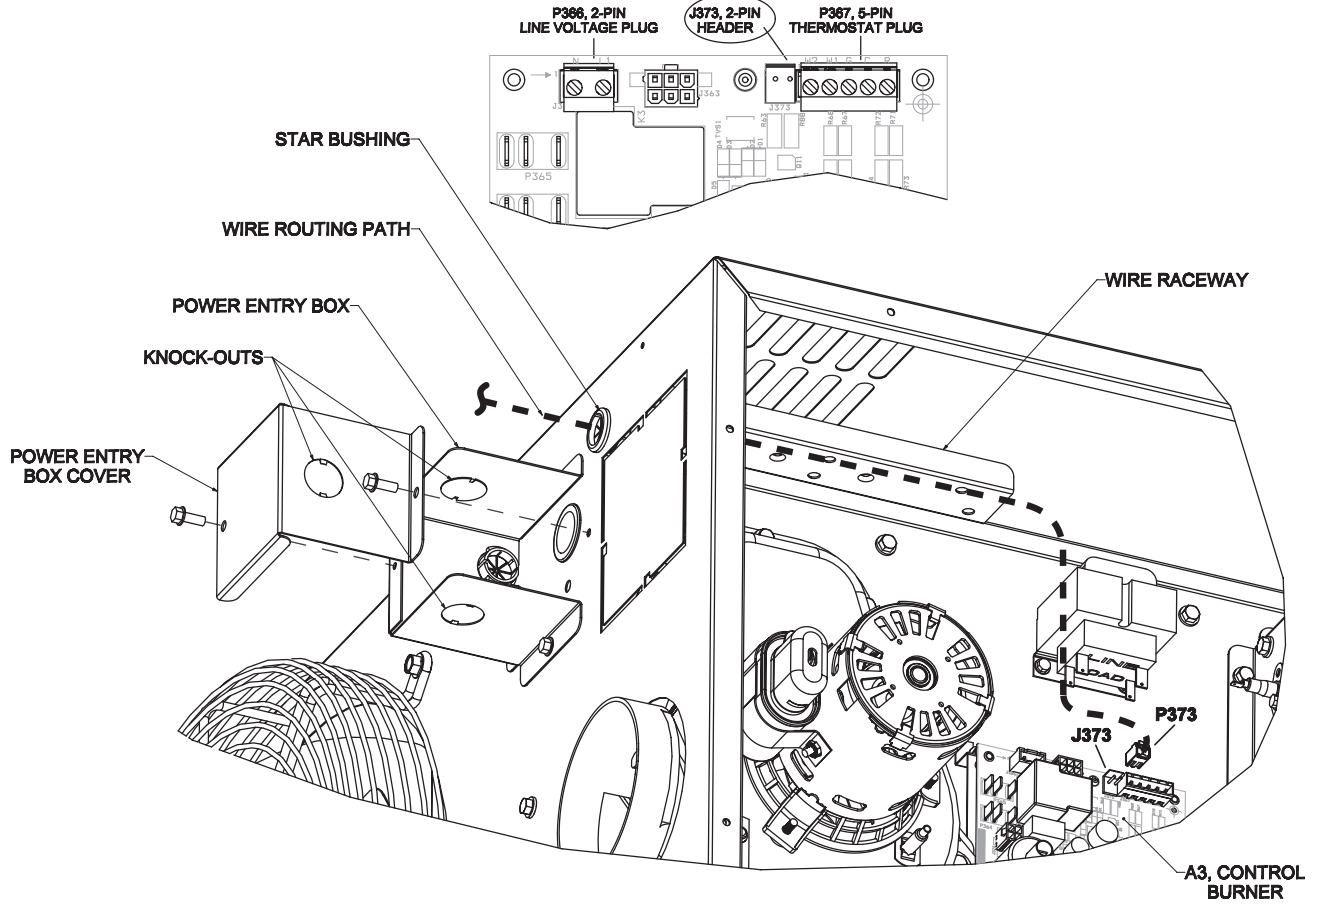
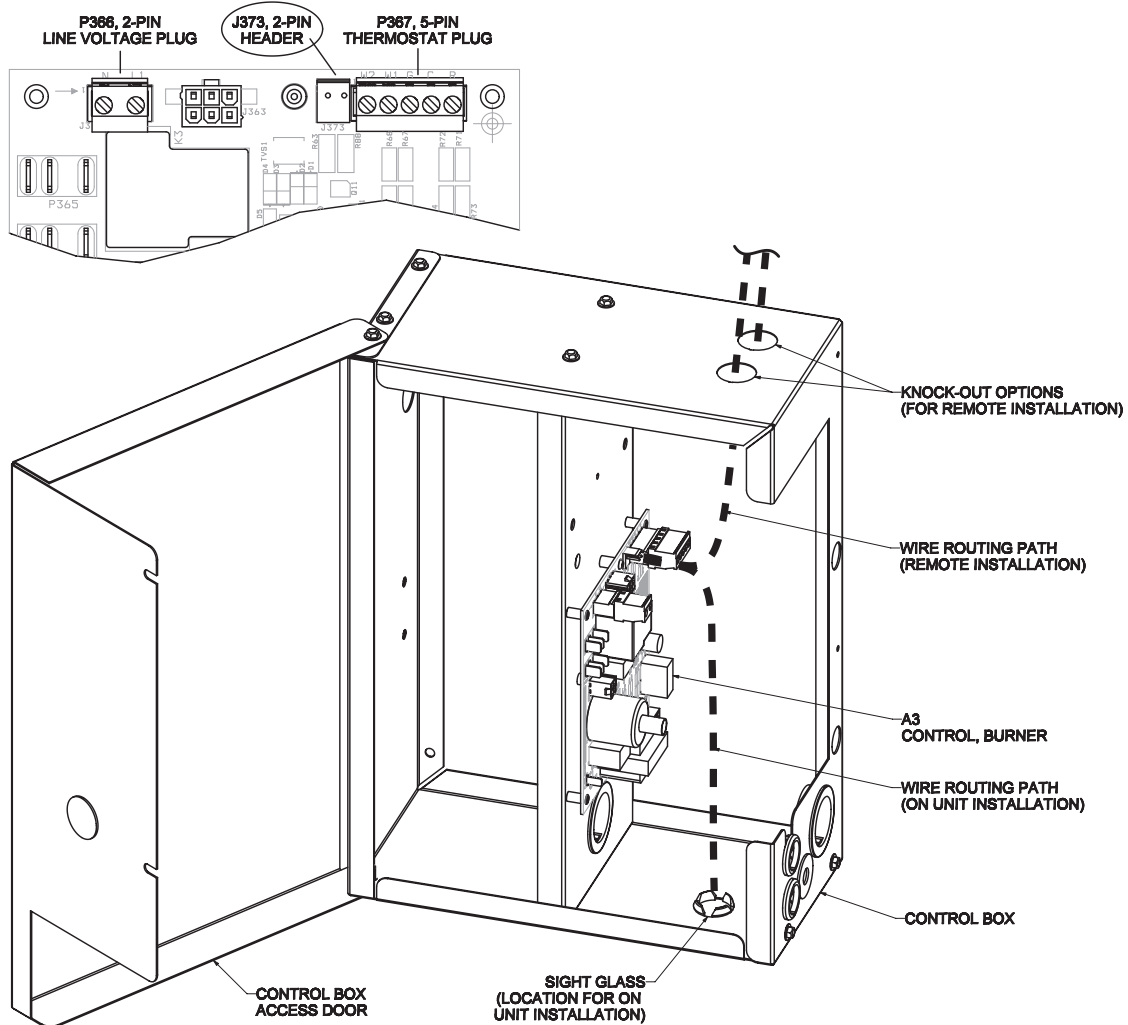

FIGURE 1
FIGURE 3
- 2 - Select an unused knock-out on the power entry box to install the LED assembly. See figure 1.
- 10 - Route the LED wiring through the star bushing, into the unit and along the raceway to the ignition control board as shown in figure 1.
- 2 - Open the control box access door. See figure 3.
- 2 - Open the service access door (30-105 units) or control box access door (125-400 units). See figure 1 for 30-105 units and figure 3 for 125-400 units.
- 5 - *30-105 Only* - Route the LED wiring out of the unit, along the wire raceway and through the star bushing. See figure 1.